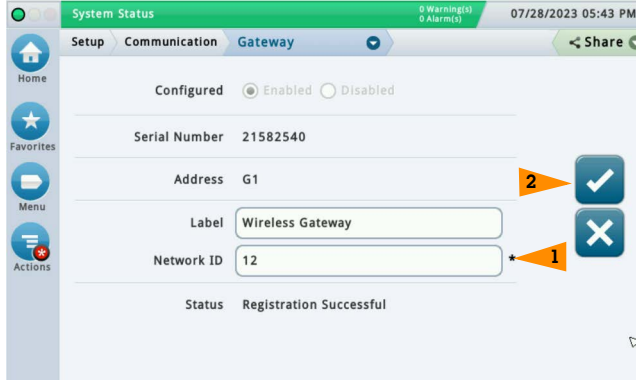

Figure 24. Save Network ID
- The * (item 1, Figure 24) that now appears next to the Network ID field indicates that the Network ID has been changed but not saved. Verify the Network ID value and then select the  button (item 2, Figure 24) to save the Network ID to the replacement Gateway.